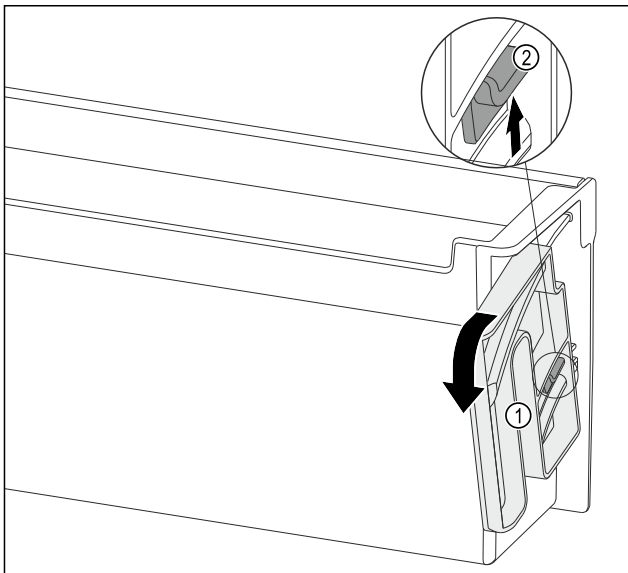

Fig. 149
- Turn the swivel unit Fig. 149 (1) in the specified direction as far as it goes.
- Push the tab Fig. 149 (2) up and remove the swivel unit Fig. 149 (1).